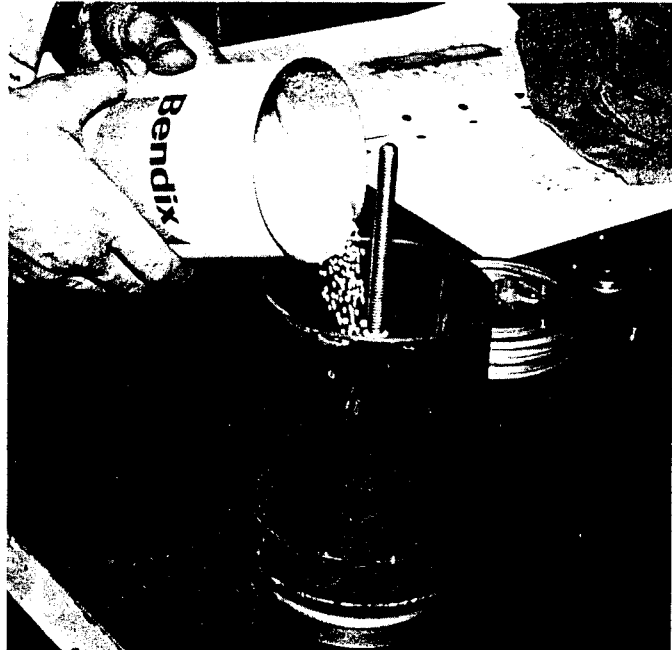

Figure 11
4. Pour the **entire package** of desiccant material into the shell, making **sure none is lost**. Handle carefully so that the bolt does not fall out. (See Figure 11)